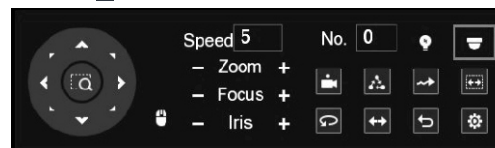

Figure 4-6
Step 3 Click **PTZ** to see more options. See Figure 4-6.